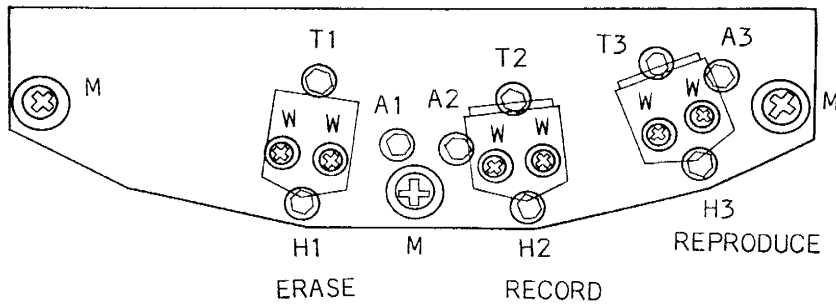

Figure 8-5 Head Assembly
The head assembly is mounted on three tape-guide posts and secured in place by the three screws labeled "M" in Figure 8-5.
If tape wrap is incorrect, adjust the wrap by loosening the screws labeled "W" as shown in Figure 8-5.
2. Observe the reading on the wave analyzer and turn screw "H" (Figure 8-5) 1/4 turn clockwise.